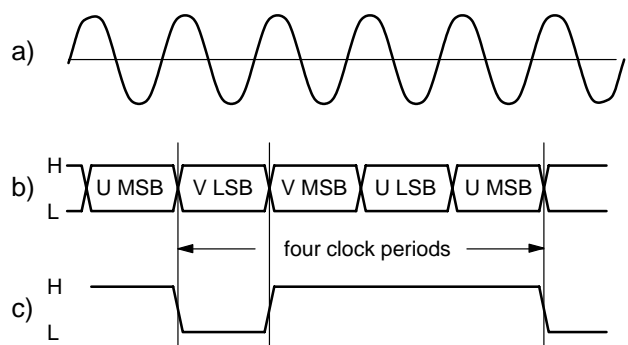

Fig. 2–8: Timing diagram of the multiplexed color difference signal transfer between decoder and CIP 3250A
In DIGIT 2000 mode, via pins 36 to 39, the CIP 3250A receives the V and U signals from the C0 to C3 outputs of the color decoder, time-multiplexed in 4-bit nibbles (Fig. 2–8). For the digital signal processing, the 4-bit V and U chroma nibbles are demultiplexed to 8-bit signals by the V and U demultiplexers. Both demultiplexers are clocked by the main clock. They are synchronized to the V and U transmission during the vertical blanking period.
**Notes to Fig. 2–8:**